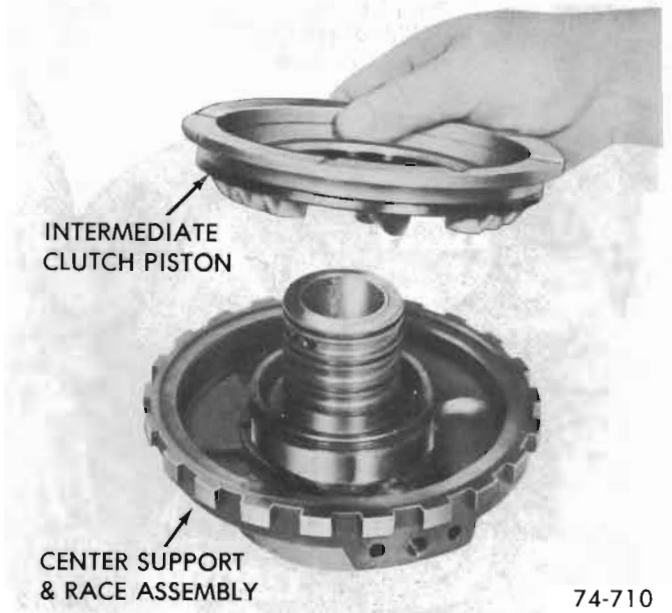
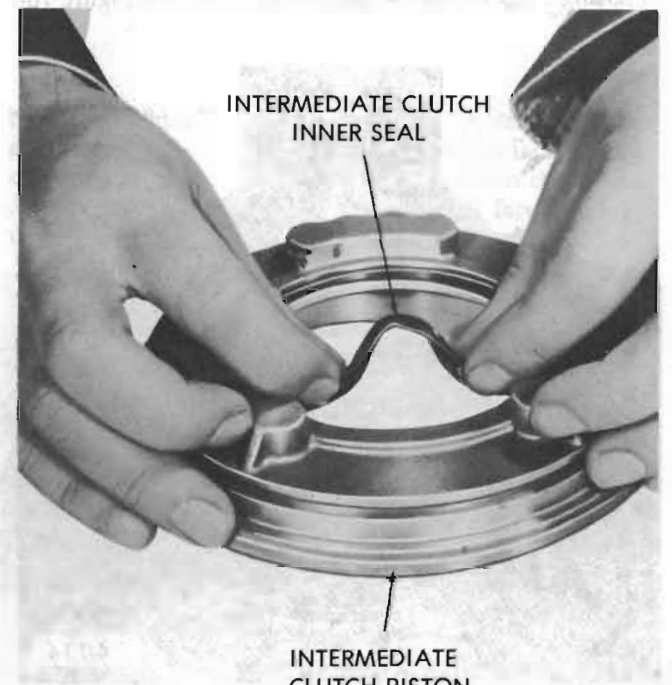

Figure 76-222
Figure 76-223
4. Remove the intermediate clutch piston. See Figure 76-222.
**NOTE:** Do not remove the three (3) bolts retaining the roller clutch inner race to the center support.
5. Remove the inner piston seal. See Figure 76-223.
1. Install new inner seal on the piston with lip of the seal facing away from the spring pocket. See Figure 76-223.